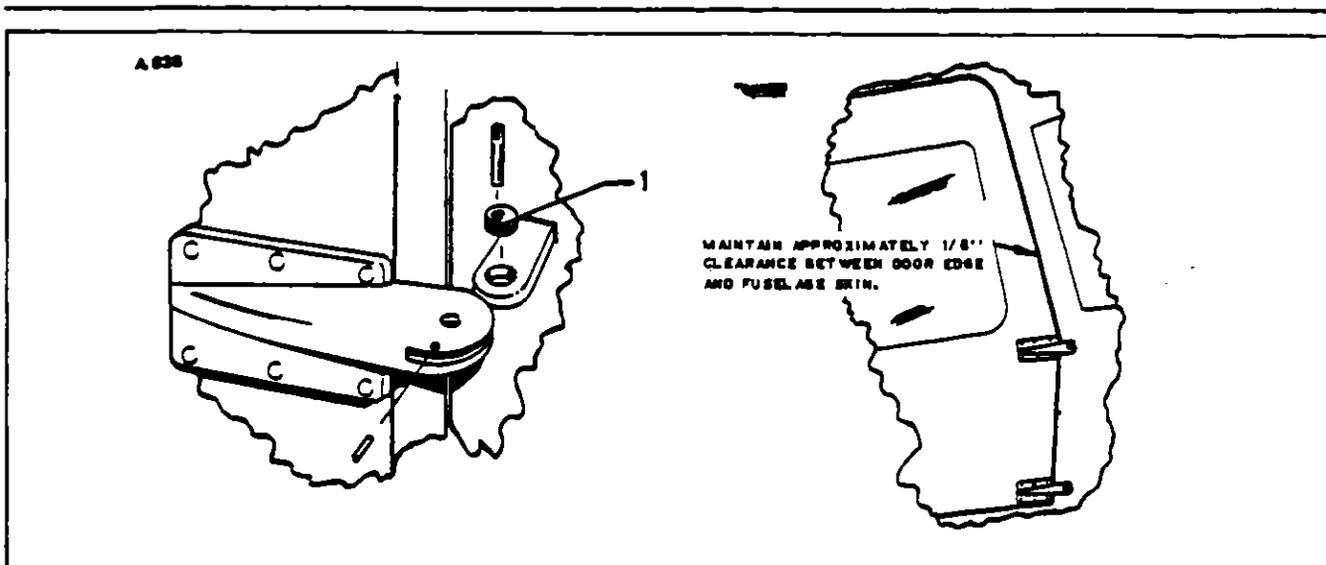

FIGURE 4-5. DOOR INSTALLATION
- b Swing the door closed and check for alignment of the main door latch and the auxiliary latch with their respective latch striker plate. If the door fails to align, remove it and reposition the two serrated door hinge bushings (See 1, Figure 4-5.) Repeat the above procedure until the door is properly aligned.
- c Once the door is properly aligned with the door frame, the procedure of trimming and fitting the door can be started. Using a small pair of metal shears and a file, trim the door edges until there is an approximate clearance of 1/8 inch between the fuselage skin edge and the door edge. (See Figure 4-5)